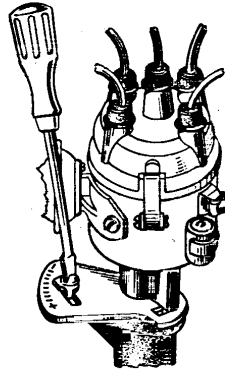

Fig. 26. Adjusting Ignition Timing by Means of Octane Selector
3. Check the ignition timing and adjust it with the octane selector (Fig. 26) when the engine is warmed up.